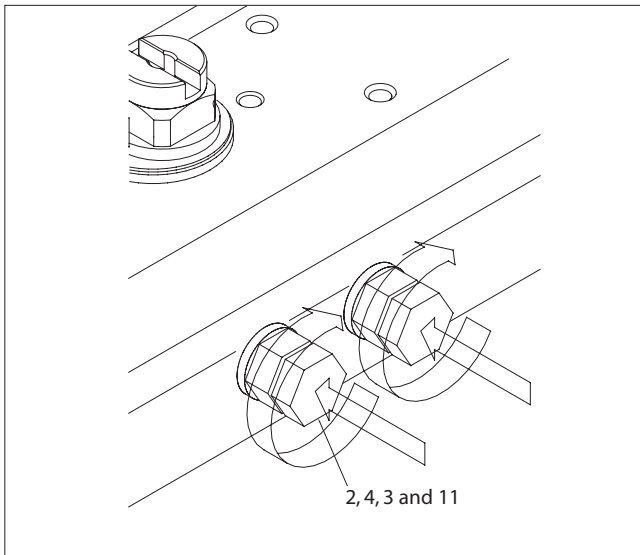

Figure 17.
**4. Assembly of Stop Screws (2) and Stroke Adjustment. (Figure 17):**
- A. Insert the nut (4), washer (3), and o-ring (11) onto the stop screws (2).
- B. Screw the stop screws (2) into the body (50).
**5. External Travel Stop Adjustment, (Figure 17):**